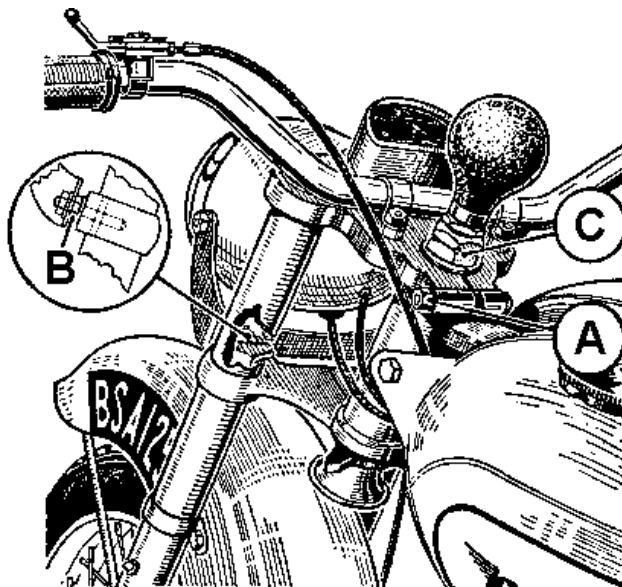
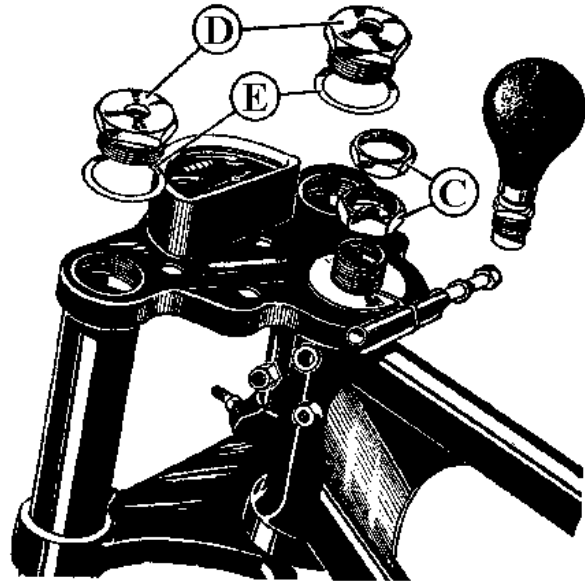
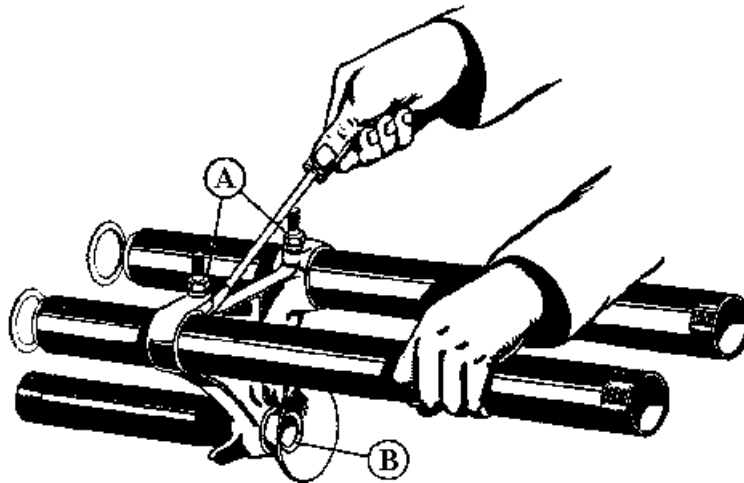

FIG. D24. *Front fork and steering head.*
Fig. D27.
Fig. D28.
Remove the two nuts (D) Fig. D27, together with washers (E) and the two locknuts (C). Remove the headlamp from its bracket and lower it to the full extent of the wiring harness. This will allow access to the underside of the top yoke so that the speedometer cables can be disconnected and the instrument removed.
To remove the outer fork tubes place the assembly on a bench and slacken the pinch nuts (A) Fig. D28, in the bottom yoke. Expand the slots in the yoke by inserting a screwdriver as shown in Fig. D28 and draw the tubes down until they are resting on the large washers. Replace the nuts (D) and tap gently to remove the washers. The fork outer tubes can now be withdrawn.
The trumpet part of the horn (when fitted) can be removed by unscrewing the slotted collar (B) Fig. D28.
On D3, D5 and C10L models the outer tubes are a taper fit in the top yoke and they should be freed by undoing the pinch nuts (A) Fig. D28, in the lower yoke and slackening the top nuts (D) Fig. D27, by about two turns. A sharp tap on the head of the nut with a hide mallet will free the tube and dismantling can then proceed as for the D1.
On D1 models, when replacing the nuts (C) Fig. D27, ensure that the thicker of the two nuts is at the bottom with its recess facing downwards.
The method of adjusting the steering head bearings on the D1 models is different to that for the other models. The forks should be completely assembled but only the large nuts (D) Fig. D27, should be tightened, after ensuring that the mudguard stay studs on the fork outer tubes are facing each other and in line. Where the mudguard is attached to the sliding tubes, the two grease nipples should be facing outwards. Tighten down the lower of the two nuts (C) Fig. D24, until the forks rotate freely but have no up and down play. Secure the lower nut by means of the locknut and then check to ensure that the bearing is not over-tightened. A "lumpy" feeling as the forks are turned indicates that the adjustment is too tight. When this adjustment is completed the top yoke clamp nut (A) Fig. D24, and the lower clamp nuts (B) should be tightened securely.